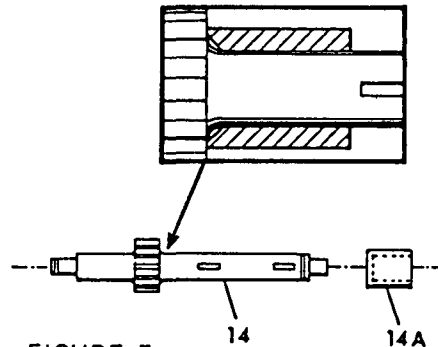

FIGURE 7
A. PRESS BEARING (6) OFF SHAFT (14). REMOVE SNAP RING (19) AND PRESS OFF GEAR (18). SLIDE OFF SLEEVE (17) AND PRESS OFF GEAR (16).
NOTE: IN EARLY MODEL TRANSMISSIONS SHAFT (14) HAD A MACHINED SHOULDER. BEGINNING IN 1971 HEAVY DUTY SHAFTS WERE USED WITH A SPACER (14A) INSTEAD OF THE MACHINED SHOULDER. WHEN REASSEMBLING SPACER (14A) THE CHAMFERED END MUST FACE FIXED GEAR ON SHAFT (SEE FIGURE 7).